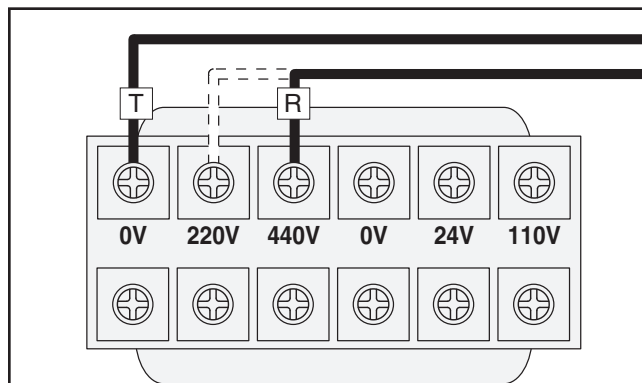

Figure 7. Transformer connection change for 440V.
3. At the voltage transformer, remove the "R" wire connected to the "220" terminal and connect that wire to the "440" terminal (see **Figure 7**).